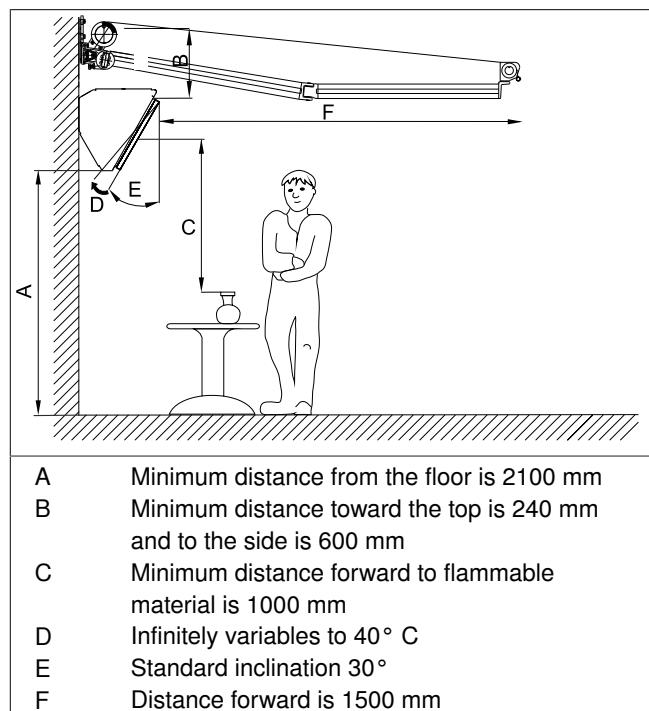

Fig. 2: Minimum distances/inclination angles
- Position the housing on the mounting substructure, adhering to the minimum distances (see Fig. 2).